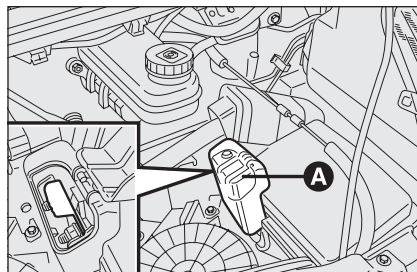

fig. 1
- ☐ lift the lid **A** to connect to the battery positive terminal **fig. 1**.